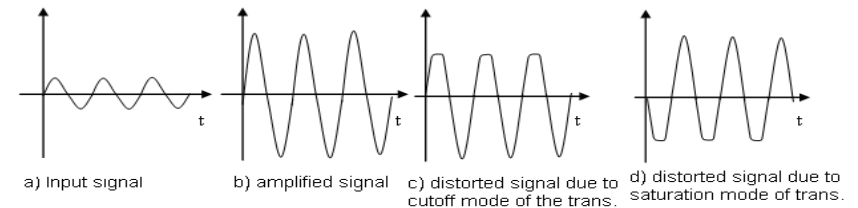

Fig. 4. Possible waveforms for the amplifier.
b) Determine the amplification of the circuit: set the frequency from the generator to 3kHz and amplitude $U_{vv\text{ in}}=200\text{mV}$. The output signal is seen on the oscilloscope, in the collector of the transistor (its waveform must be sinusoidal, as in Figure 4).